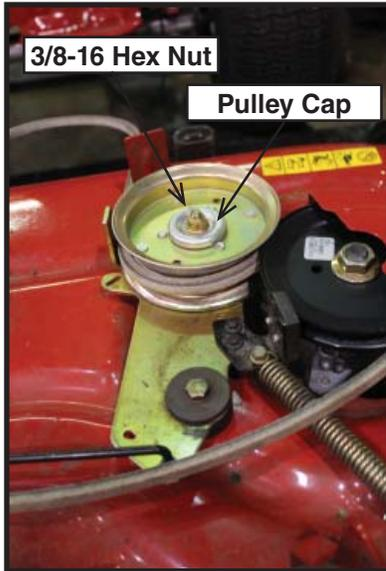

Figure 2
3. Remove the 3/8-16 hex flange nylon locknut and pulley cap from the idler pulley. Figure 2. **NOTE: The bolt head can be accessed from below the idler bracket.**